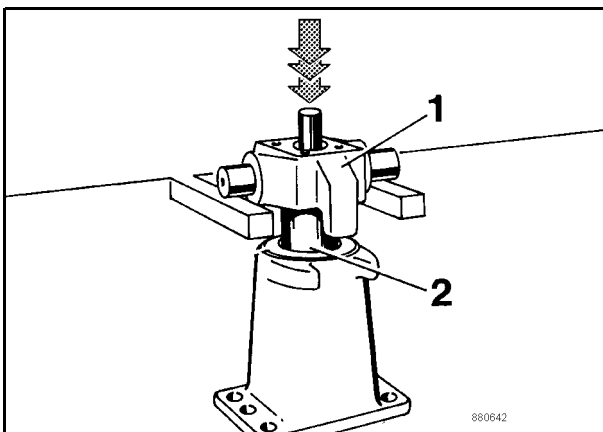

Fig. 7
9. Press the cross member 1 (Fig. 7) off the axle journal (2).